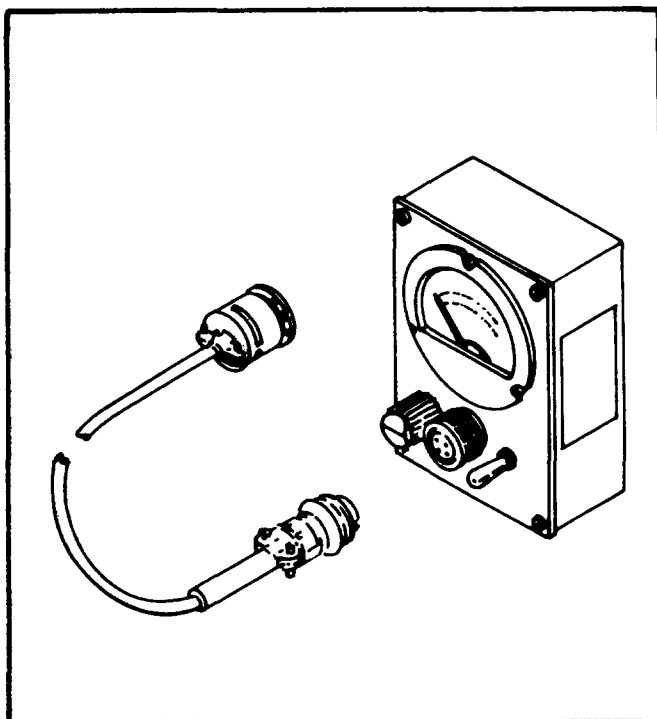
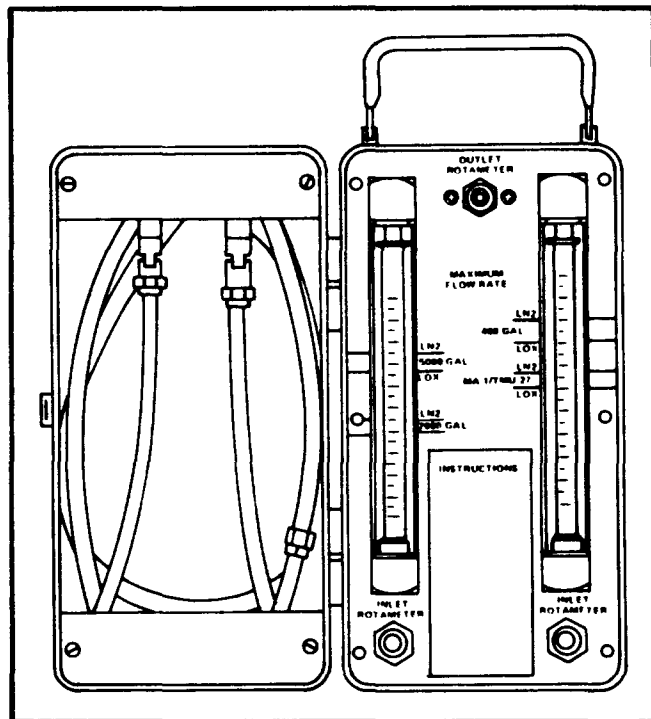

Figure 2-1. Gage, Vacuum.
Figure 2-2. Meter, Dual Efficiency.
(Figure 2-1, Figure 2-2) are approved tools and test equipment if available. However equivalent items may be used if recommended items are not available.
d. Checking Vacuum. Checking the Tank vacuum within the annular space requires a vacuum gage (Refer to Table 2-1 and See Figure 2-1). Procedures for checking the Tank vacuum are found in Section V (Refer to paragraph 5-5.4 and See Figure 5-4).